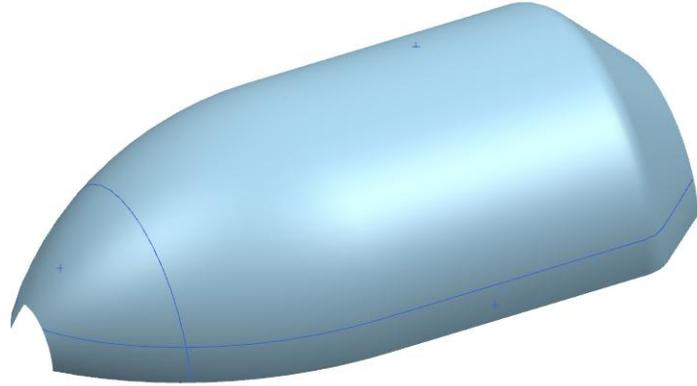

Figure 10–20
1. Open **MULTI_TRANSITION_MAN_B.prt**. The model displays as shown in Figure 10–20.